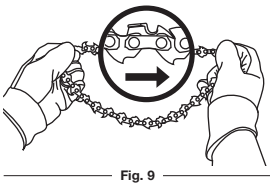

Fig. 9
5. Loop the saw chain over the drive sprocket with the cutting edges of the chain pointing in the direction of rotation (Fig. 9).